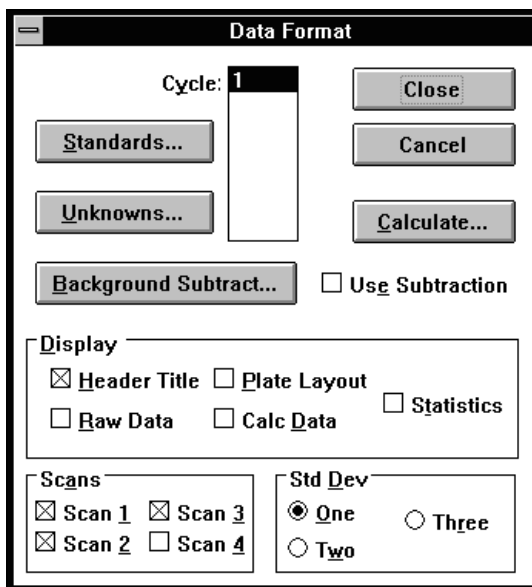

Figure 2-6 Data Format Dialog Box
1. Select **Format** from the Data menu (ALT, D, F). The Data Format dialog box appears (Figure 2-6).
The Data Format dialog box appears (Figure 2-6).
1. Select **Format** from the **Data** menu (ALT, D, F). The Data Format dialog box appears (Figure 2-6).